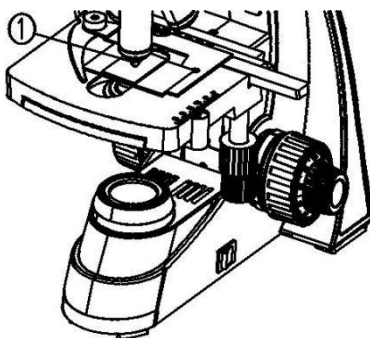

Figure 15
2. Drop a drop of immersion oil ① on the sample of the observation part. (as shown in Figure 15)